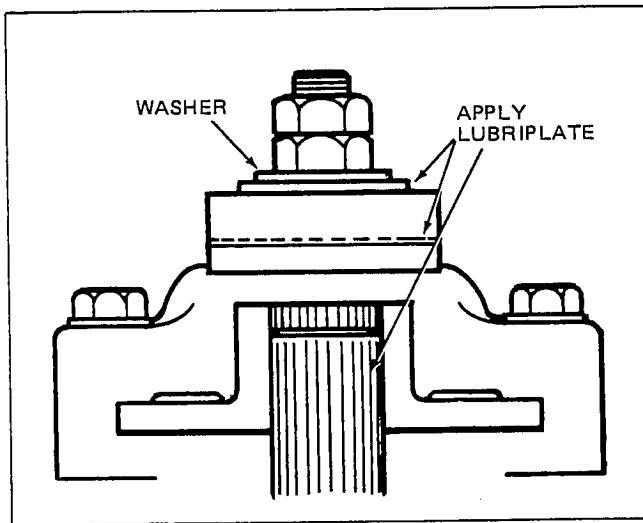

Figure 3-36
Install differential in case. Figure 3-36.
11. Prior to installing the brake assembly apply a light film of lubriplate to the inside of lever portion which contacts pins (Figure 3-36) also to outside of lever which contacts flat washer and between shaft O.D. and bore of brake disc. Brake pads and brake disc must be free of grease and oil. Install brake and linkage and adjust to disengage when clutch is engaged. Consult equipment owner's manual.